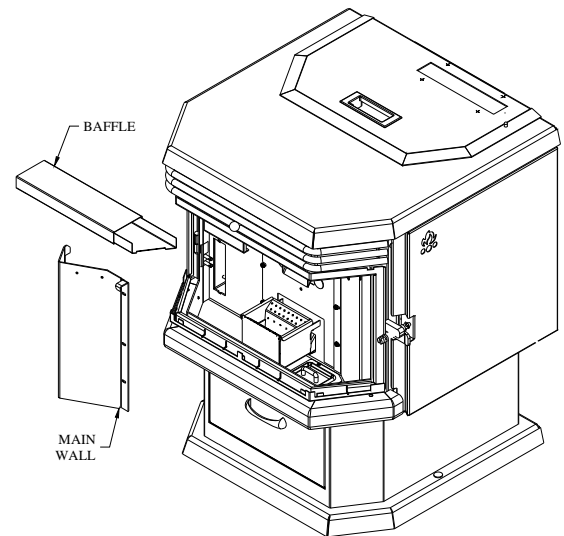

Figure 43
- With the door closed, clean heat exchanger tubes by sliding the cleaning rod back and forth. (see Cleaning section and Figure 43 & 44) .